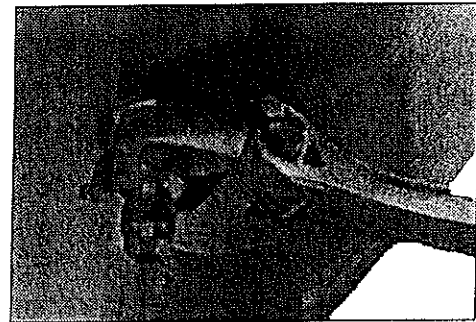

Fig. 5
2. Using an adjustable wrench remove the Flare Fitting coming out of the bottom of the grill. (See Fig 5)